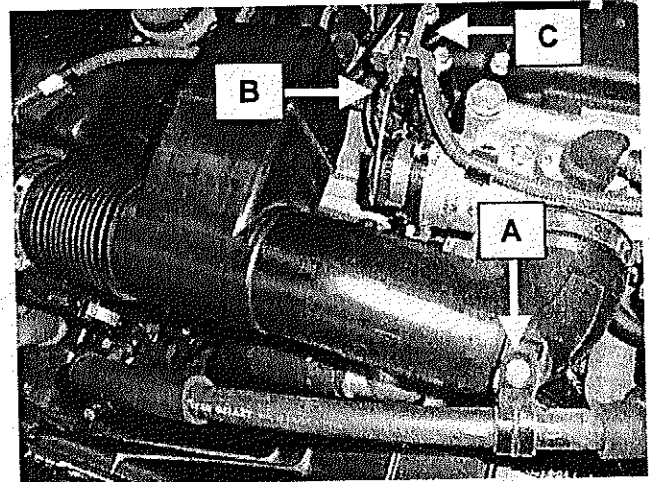

Figure 2
2. Remove the A/C suction hose bracket. With a tie wrap, position the hose out of the way (Arrow A, Figure 2).
3. Remove the throttle cable from throttle body (Arrow B, Figure 2).
4. Remove the bracket (Arrow C, Figure 2), with the cable attached, and set the assembly aside.